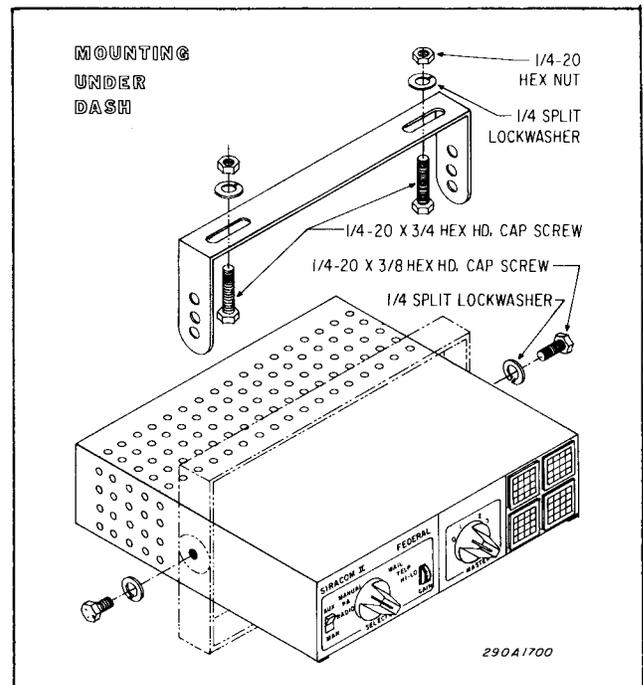

Figure 3-1 Installation of Siren Under the Dash
Mount the siren where it won't interfere with the safe operation of the vehicle. Keep visibility and accessibility of controls in mind when choosing a location. To install the bracket under the dash, determine the mounting location and proceed as follows (see figure 3-1):
C. Secure the mounting bracket to the dash using two each of the following: 1/4 - 20 x 3/4 hex head screws, 1/4" split lockwashers and 1/4 - 20 nuts as shown in figure 3-1.